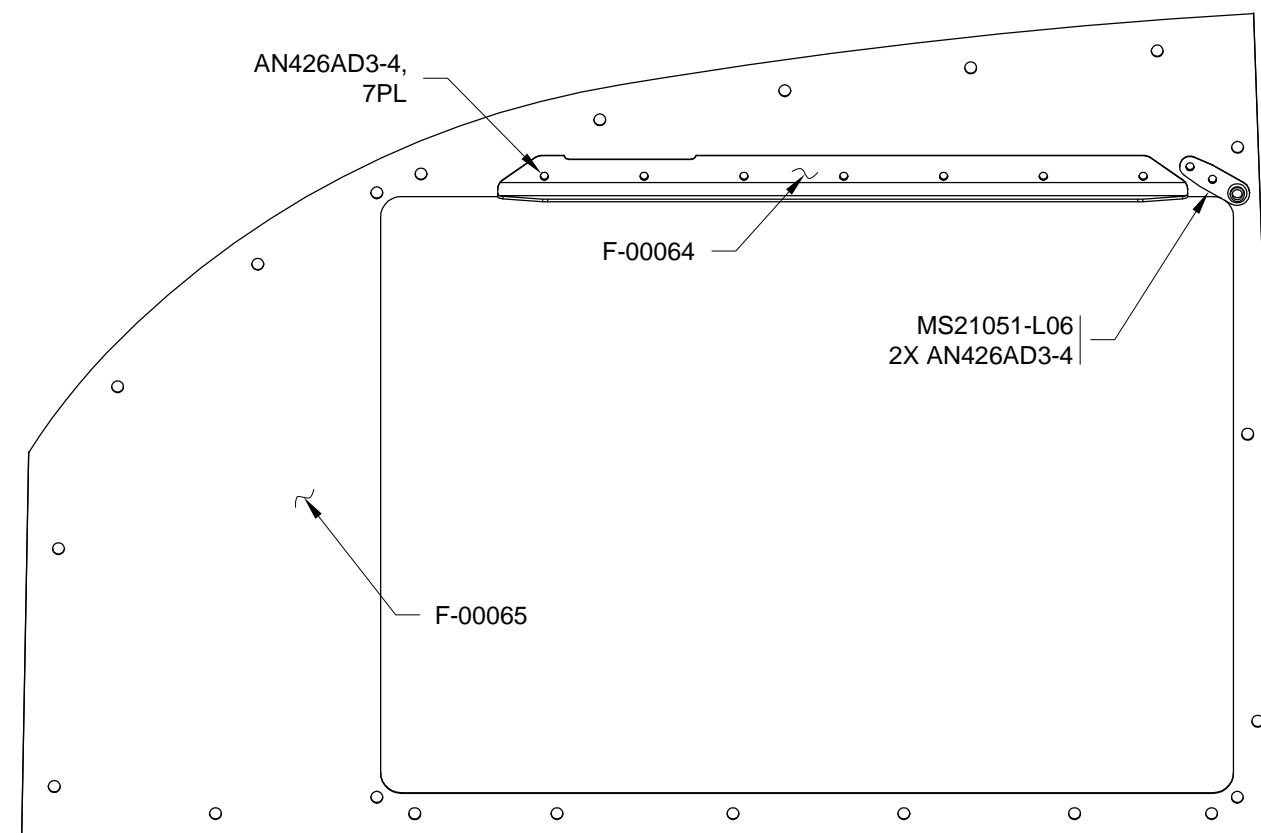

FIGURE 3: PREPARING THE RV-12 PANEL (COPILOT)
Step 3: Rivet the F-00064 Stiffener Angle to the firewall side of the RV-12 panel (copilot). See Figure 3.
Rivet the nutplate called out in Figure 3 to the firewall side of the RV-12 panel (copilot).